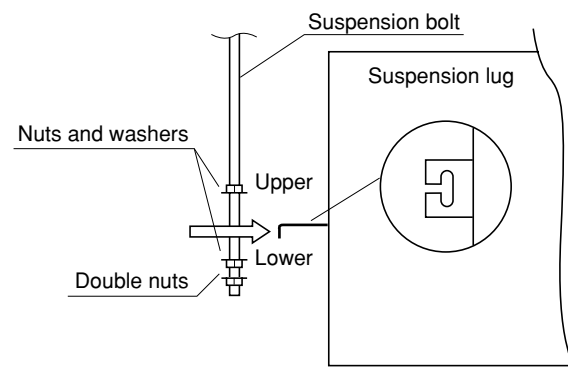
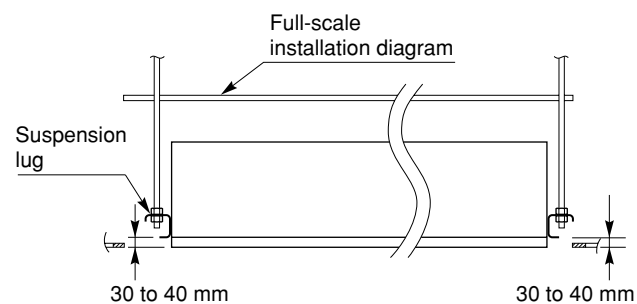

Fig. 3-23
Fig. 3-24
The distance between the bottom of the suspension bolts and the bottom surface of the ceiling should be 30 to 100 mm. (Fig. 3-24)
- (2) Thread the 3 hexagonal nuts and 2 washers (field supply) onto each of the 4 suspension bolts as shown in Fig. 3-23. Use 1 nut and 1 washer for the upper side, and 2 nuts and 1 washer for the lower side, so that the unit will not fall off the suspension lugs.
- (3) The indoor unit should be suspended from the suspension bolts (Fig. 3-23) so that the distance between the bottom of the suspension lug and the bottom surface of the ceiling is 30 to 40 mm. (Fig. 3-24)